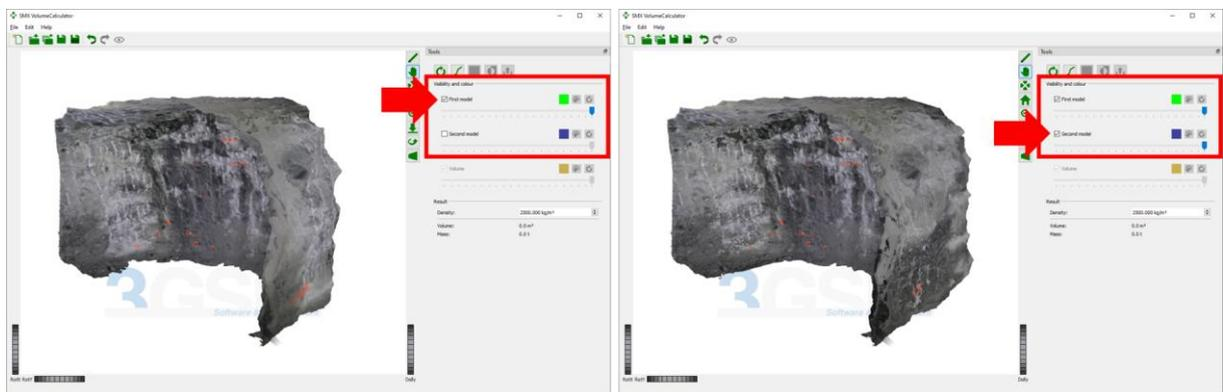

Figure 11: Loaded 3D models of a tunnel excavation: left first model; right second model
2. Load the 3D models one after the other by clicking the “*Load 3D Models*”  icon in toolbar 2. Check the images for plausibility with the sliders “*First Model*” and “*Second Model*” (see Figure 11).